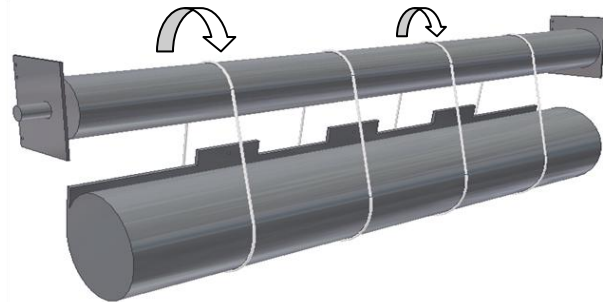

Figure 8.4 - Installing the Curtain
5. Lift the coil until it is just below the shaft. Using appropriately rated ropes or straps, sling the coil from the shaft as shown in **Figure 8.4**. Remove the plastic strapping securing the coil at this point.